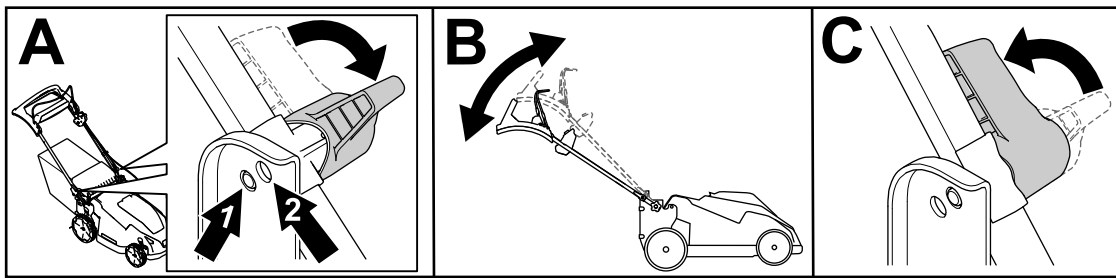

Figure 11
1. On both sides of the machine, rotate the handle locks (A of Figure 11).
2. Adjust the position of the handle to the upper (high handle height) or lower (lower handle height) position (B of Figure 11).
3. When the handle is in the desired position, rotate the handle locks back until the pin clicks to secure the handle (C of Figure 11).